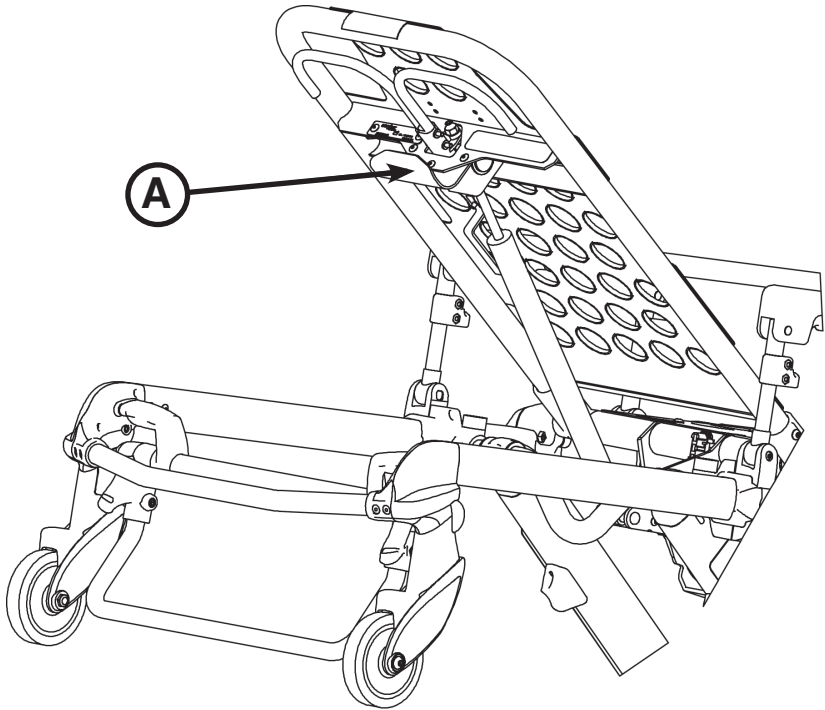

Figure 68: Equipment Hook
Use the equipment hook (A) (see Figure 68) to hang additional accessories or equipment, such as defibrillators or monitors.